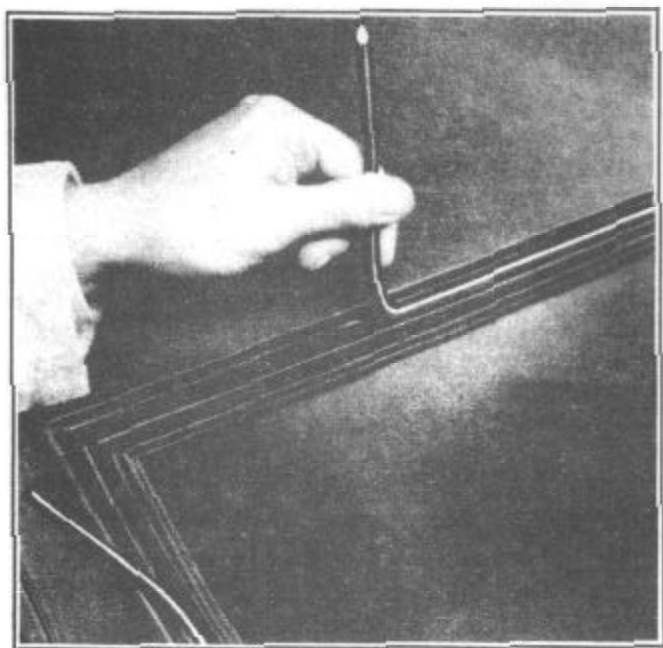

FIGURE 48
2. Remove weatherstrip expander by prying out one end and then pull expander out of weatherstrip, as shown in Figure 48.